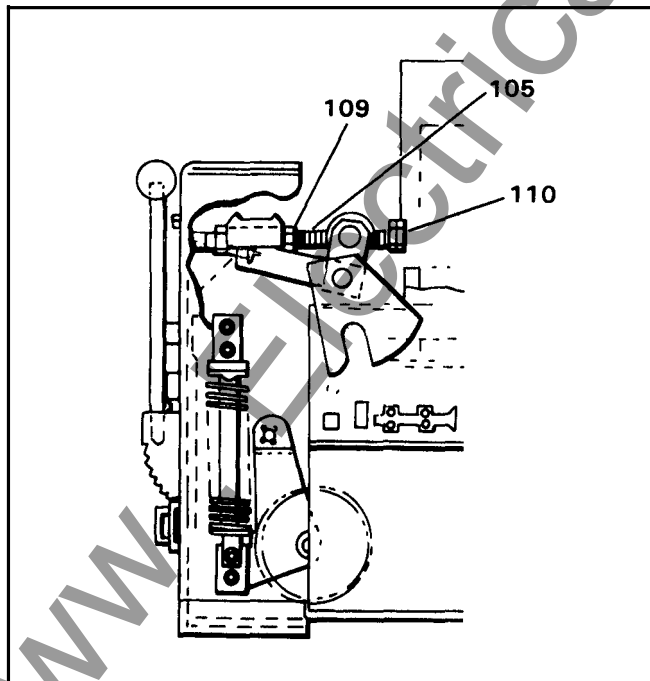

Figure 3. Detail of Typical Racking Mechanism and Drawout Interlock
Refer to Figure 3, page 8. With the circuit breaker resting on the cubicle rail, the following sequence should be used to rack the circuit breaker into the cubicle.
5. Before attempting to operate the circuit breaker, the position of the device should be checked with reference to the holes in the cubicle, to be certain that it is fully connected. Two stop nuts are provided on the racking screw to set the connected position. These are adjusted by setting the angle of the racking clevis, as shown in Figure 3, and by tightening the nuts against the stop washer (109), the two nuts (110) should then be locked against each other.